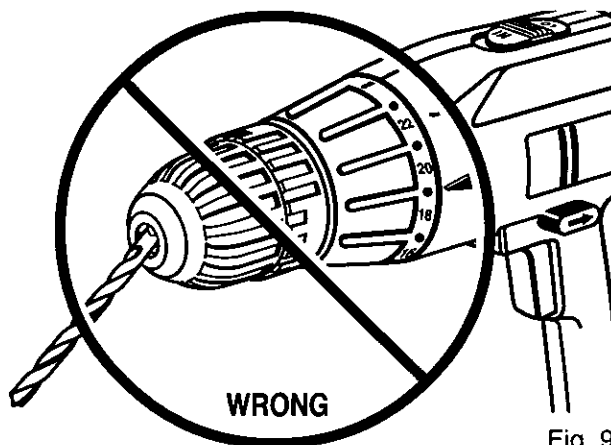

Fig. 9
**⚠ WARNING:** Make sure to insert drill bit straight into chuck jaws. Do not insert drill bit into chuck jaws at an angle then tighten, as shown in Figure 9. This could cause drill bit to be thrown from drill, resulting in possible serious personal injury or damage to the chuck.